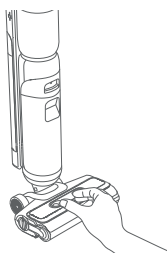

Figure 1
1. To remove the brush roller lid, first apply your fingers to the position as shown in the figure and press the release buttons at both ends with your thumb and index finger to take out the roller lid (Figure 1).